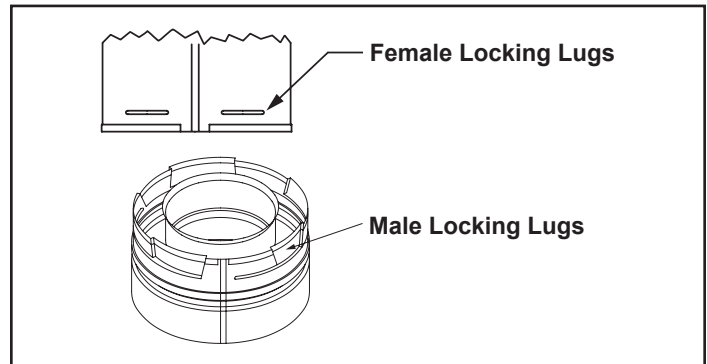

Figure 5.4
**Note:** Direct vent pipe is designed to slide straight onto the male ends of adjacent pipes and fittings by orienting the pipe indentations so they match and slide into the entry slots on the male ends, Figure 5.4. Push the pipe sections completely together, then twist-lock one section clockwise approximately one-quarter turn, until the two sections are fully locked. The female locking lugs may not be visible from the outside, on the pipe or fittings. They may be located by examining the inside of the female ends.